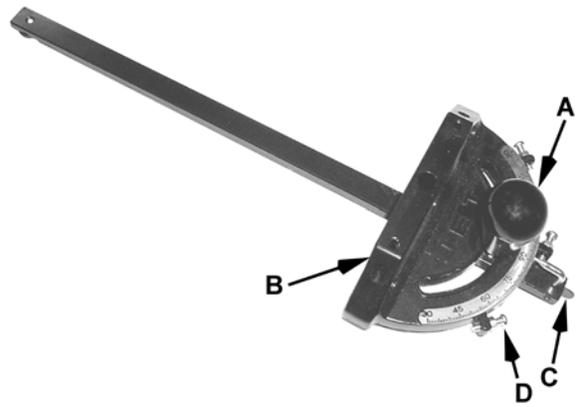

Figure 27
1. Operate the miter gauge by loosening the *lock knob* (A, Fig. 27) and turning the *miter body* (B, Fig. 27) to the desired angle. To move the gauge beyond the index stops of 45° and 90°, flip down the *stopleft* (C, Fig. 27).
2. Adjust the index stops by turning one of three *adjustment screws* (D, Fig. 27).